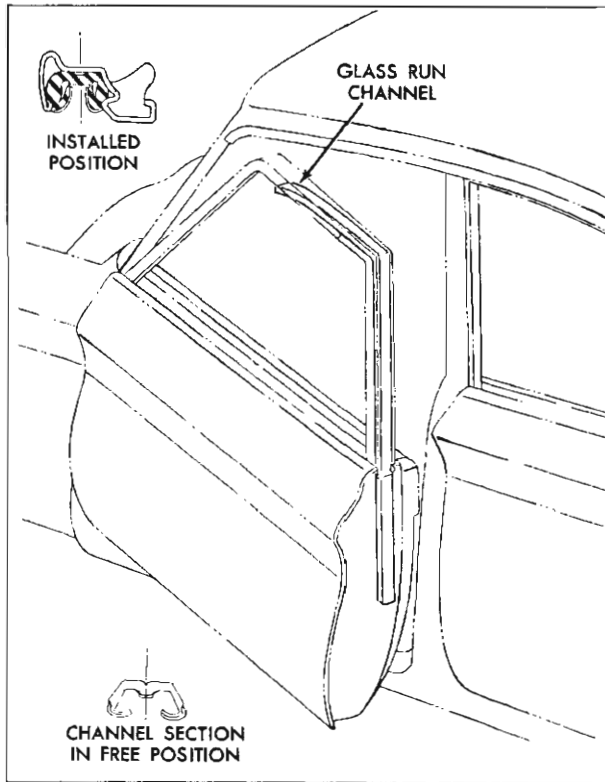

Fig. 12-29 Glass Run Channel—Sedans
3. Press (finger pressure) sides of run channel together and remove assembly from door upper frame (see Fig. 12-29).